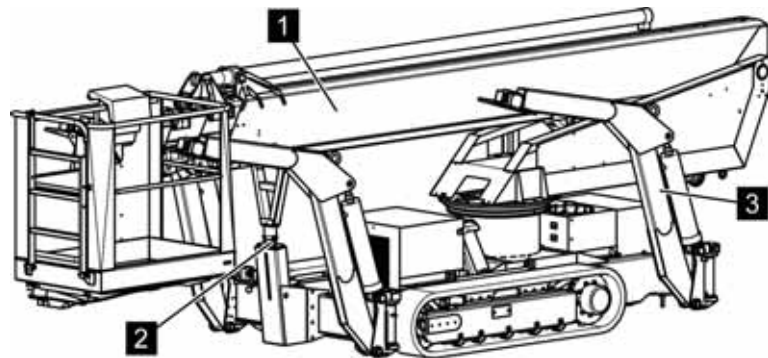

Fig. 67: Transport position
- The telescopic arm (Fig. 67/1) is on the transport attachment (Fig. 67/2).
- The outriggers (Fig. 67/3) are retracted and in transport position.